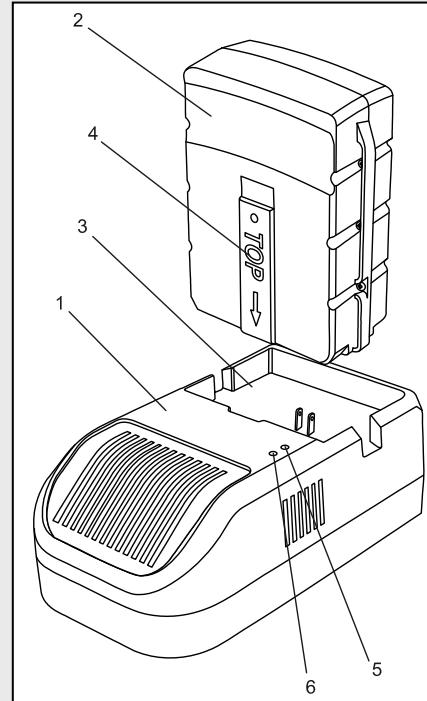

Fig. 1
1. To charge the CORE™ Power Cell, place the charger (1) in a dry location near a 120 V AC, 60 Hz electrical outlet and plug it into the outlet (Fig. 1).
2. Insert the CORE™ Power Cell (2) into the matching cavity (3) in the top of the charger.